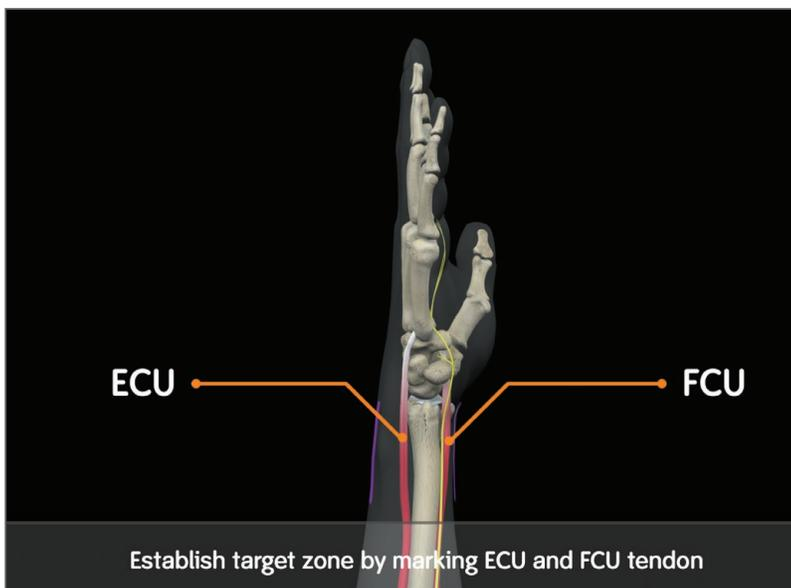

Figure 1
4. Mark the ECU and FCU tendons (**Figure 1**). The area between the ECU and FCU tendons represents the target zone.